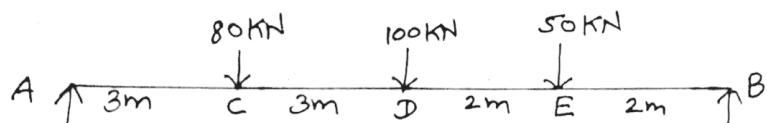

Fig. 1
- Q1) a)** A simply Supported beam is loaded and supported as shown in fig 1. Determine support reaction at A, Shear force & Bending Moment at C by drawing influence line diagram. [8]